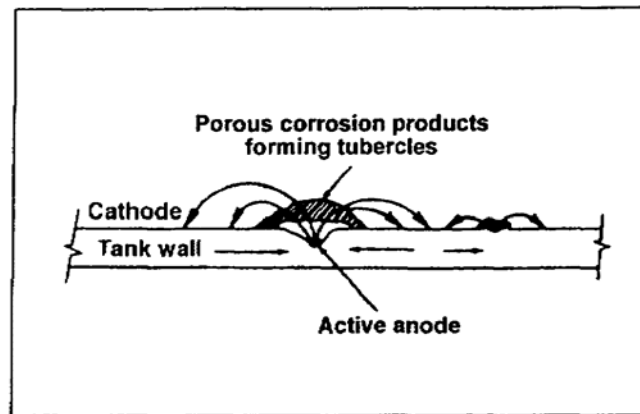

Figure 5-9. Low-oxygen cell corrosion action
(3) Active-passive concentration cell corrosion is commonly found on metals that depend on a tightly adhering passive film, usually an oxide, for corrosion protection. The corrosive action starts as an oxygen-concentration cell. For example, salt deposits forming on metal surfaces in the presence of water containing oxygen can create an oxygen cell. The corrosive action of the low-oxygen cells will break the passive film beneath the dirt particles, which in time will expose the active metal beneath the film to corrosion action (Figure 5-9). An electrical potential develops between the large area of the cathode (passive film) and the small area of the anode (active metal), which can produce rapid pitting of the active metal.